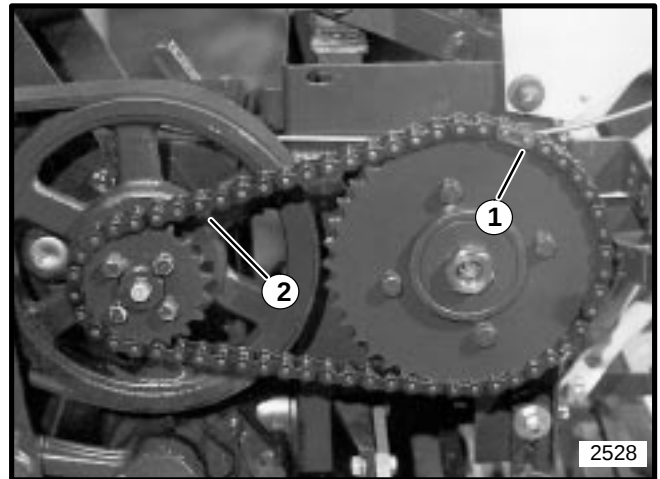

FIGURE 39
2. Remove master link from chain and remove chain. See Figure 39.